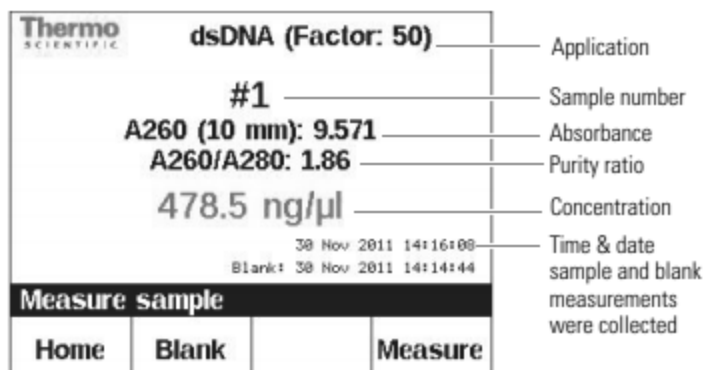

Figure 2. Illustration of NanoDrop™ Lite Spectrophotometer results screen.
- 60 Measure the sample by pipetting 1 μL (mix the DNA with the pipette) of the sample in the lower pedestal, then, lower the upper pedestal and press Measure. Once ready, the equipment screen displays the results (Figure 2). Lift the pedestal and clean the upper and lower pedestal with Kimwipes and the instrument is ready to measure the next sample.
The PCR is aimed to amplify the ITS1 region of rDNA (Figure 2-A). The primers used are ITS1F (5'-CTTGGTCATTTAGAGGAAGTAA-3'; Gardes and Bruns, 1993) and ITS2 (5'-GCTGCGTTCTTCATCGATGC-3'; White et al. 1990).
The PCR program is indicated in the Figure 2-C.